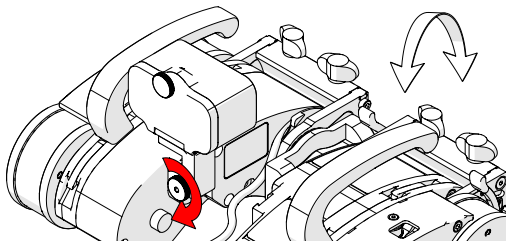

Fig. 27 - Tighten the preamp mounting bracket knob
3. Tighten the preamp's mounting bracket knob (Fig. 27).